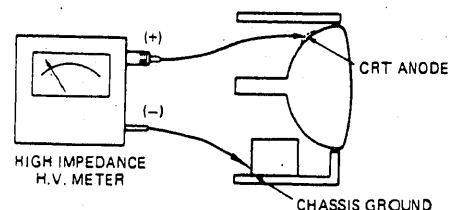

Fig. 1. Connection of H.V. Meter
1. Connect a high voltage voltmeter between the CRT anode and the chassis ground as shown Fig. 1.